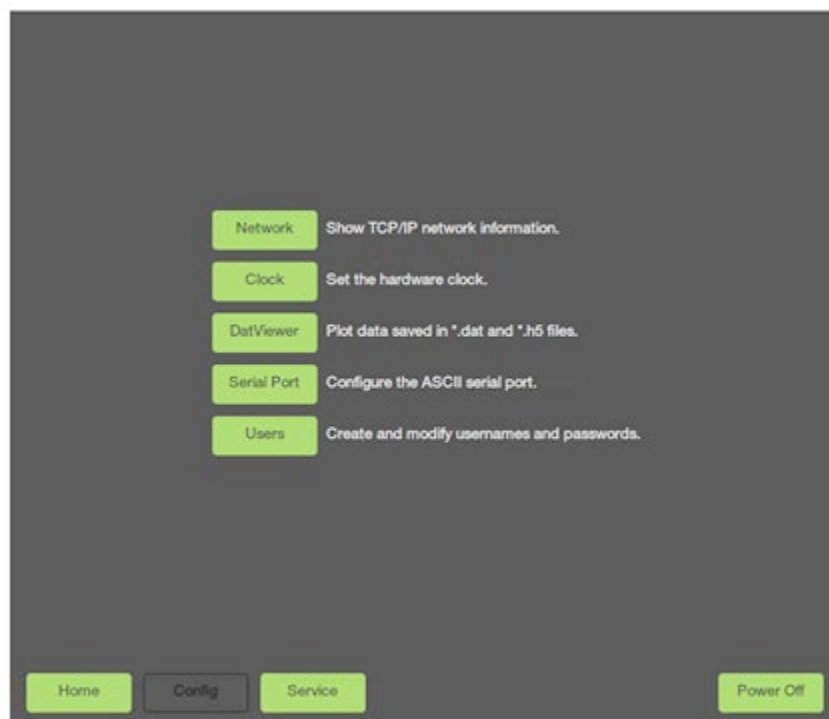

Figure 28: The Config Screen
4. The *Configuration* Menu displays. See Figure 28.
Click on **Clock** (Figure 28).
Click on Serial Port on the Config screen (Figure 28) to access the Serial Port Dialog. The serial port dialog lets you change the baud rate. Figure 33 shows the serial port dialog.